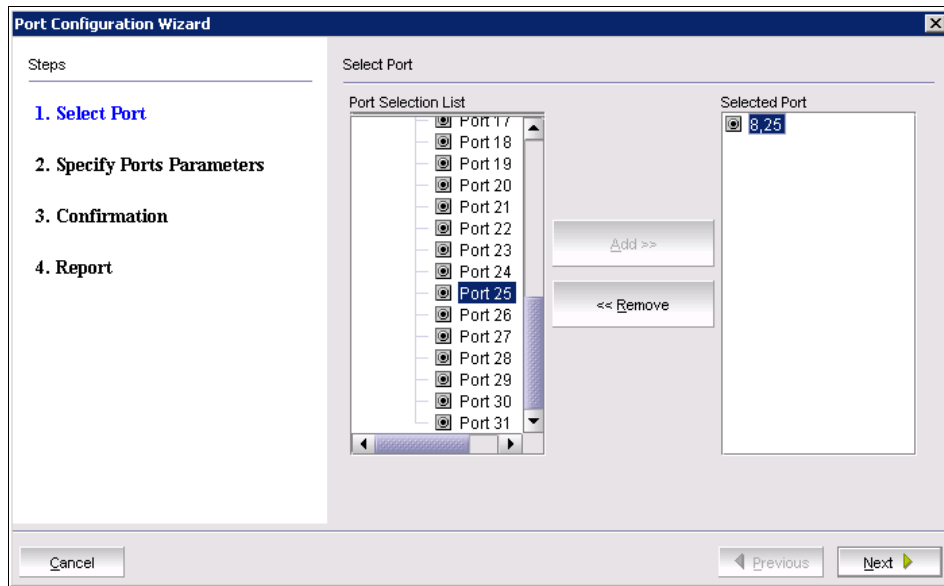

Figure 9-9 Selecting port 8/25 for EX\_Port
3. Select the slot/port that we want to configure. Figure 9-9 shows that we selected port 8/25 from the Port Selection List in the center of the panel. Click **Add** to put the port in the Selected Port list. Click **Next**.